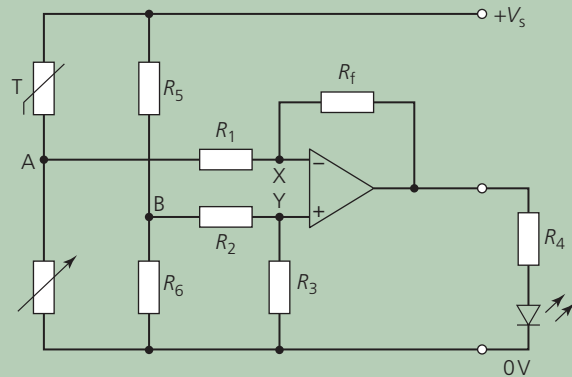

Figure Q2
- b. Figure Q2 shows an op-amp connected as a temperature sensor.